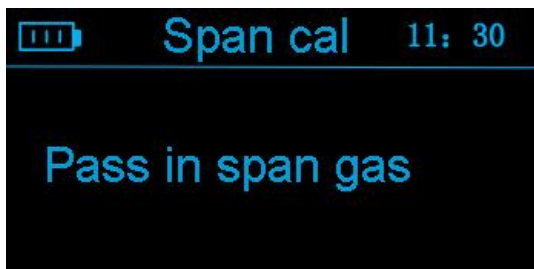

fig 19
Input the span gas value. Then press the key "①" , then display the following screen as fig 19: